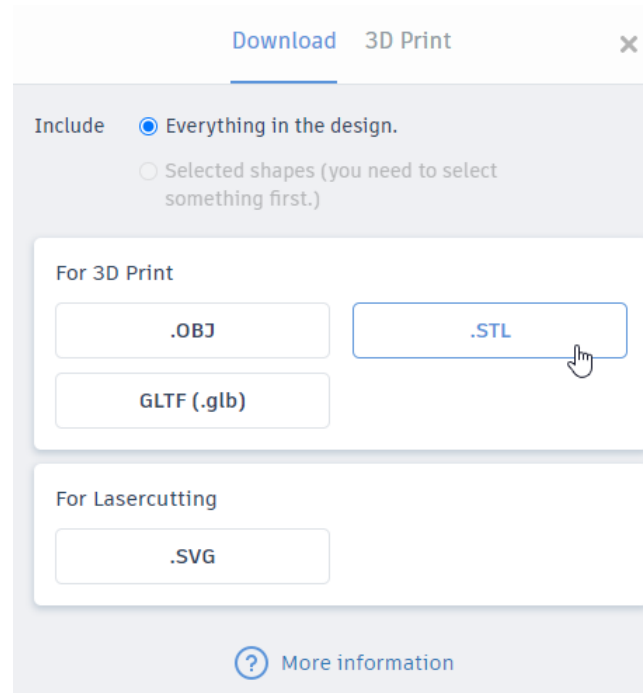

Figure 15.7: Exporting as STL
- Choose **.STL** as the file format (see Figure 15.7).